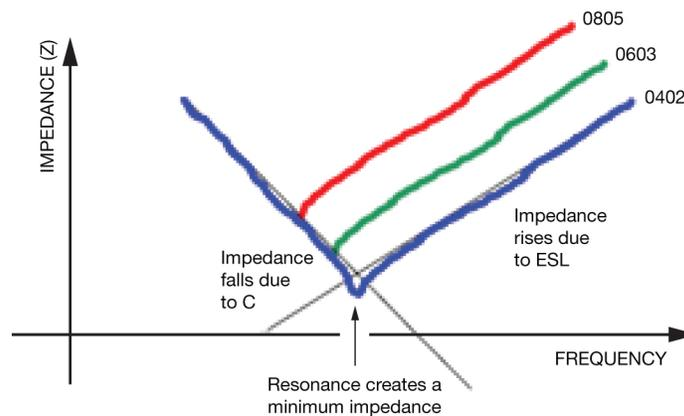

Figure 4.
High speed circuits are an exception where inductive loads may delay the delivery of the required current from the capacitor and therefore impact circuit performance. The effects on impedance (Z) vary with case size and can be seen in figure 4.